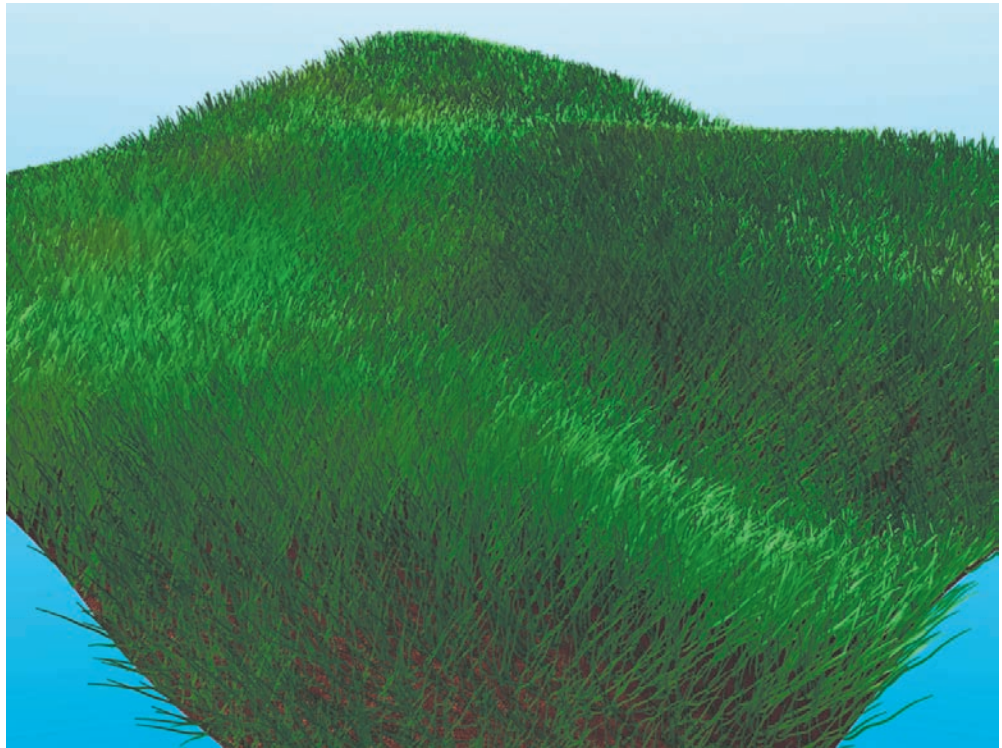
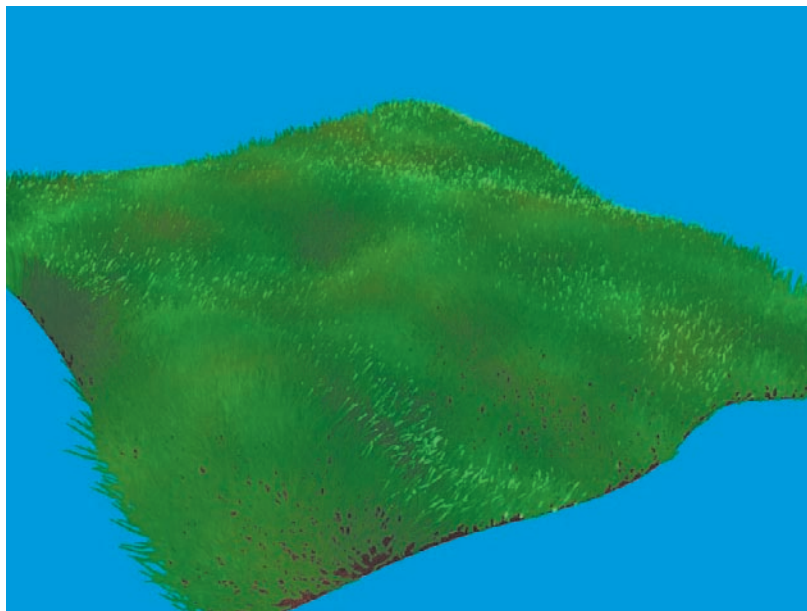

Figure 4.68 Rendered grass
Figure 4.69 Grass with strand diffusion
5. Light the scene with Spot type lights and buffer shadows, and render the scene. You should have something like the patch of grass shown in Figure 4.68. Try experimenting with strand diffusion on the grass material. In Figure 4.69, you can see the more-uniform shading that results from using strand diffusion with a distance value of 10. There is also plenty of room to experiment with various clumping and roughness settings on the particles. Try introducing forces to get your grass to blow in the wind, or animating effects like tire tracks through the grass by using animated Particle Attribute textures.